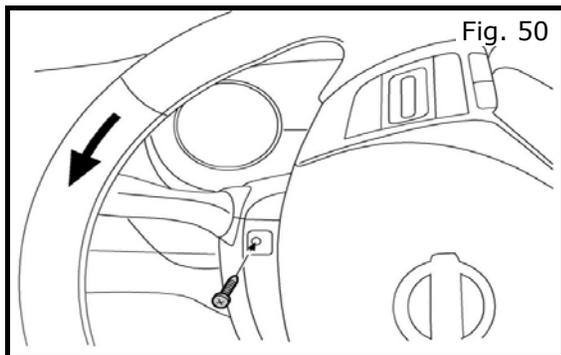

Fig. 50
- a) Rotate the steering wheel counter clockwise to access the left steering column cover screw as shown in Fig. 50.
- b) Install one (1) phillips head screw as shown in Fig. 50.